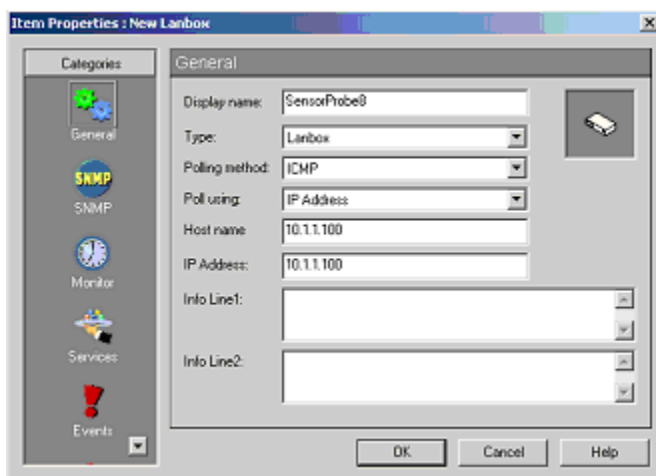

Figure 2 General Property page
3.2 On the left pane select General (see Figure 2).
3.1 Double click the sensorProbe icon on the network map to open the item properties dialog box shown in Figure 2.